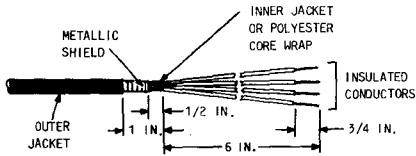

Fig. 28—Prepared Service Wire—B Cable Closure
6.02 Prepare the service wire for B cable closure as illustrated in Fig. 28.